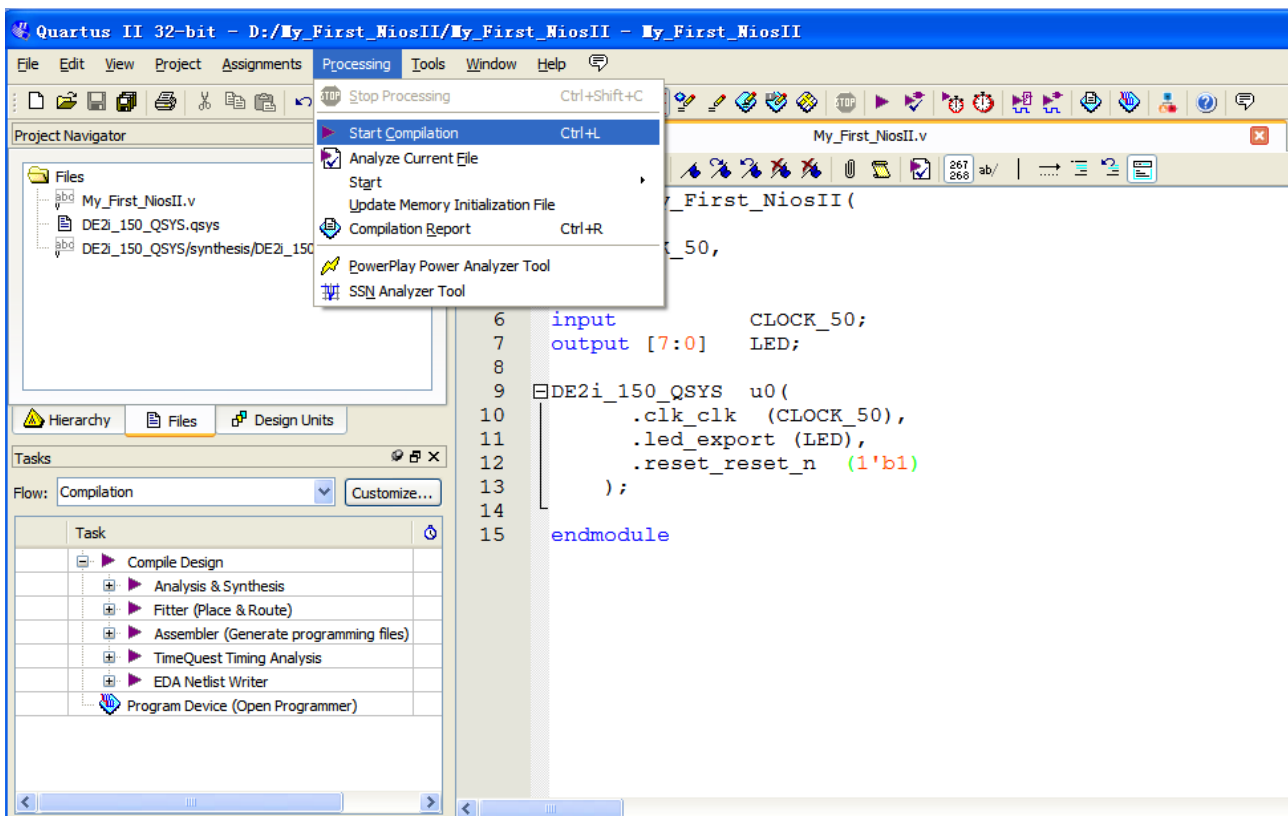

Figure 1-62 Start Compilation
37. Choose **Processing** > **Start Compilation** as shown in Figure 1-62. Figure 1-63 shows the compilation process.